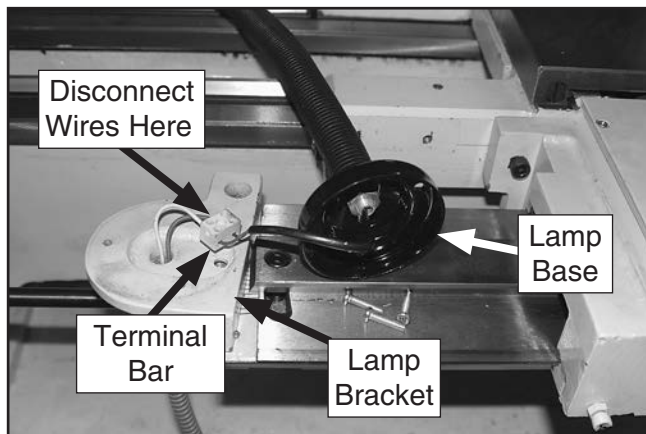

Figure 25. Lamp base and bracket separated.
43. Separate the lamp base from the lamp bracket, as shown in **Figure 25**.